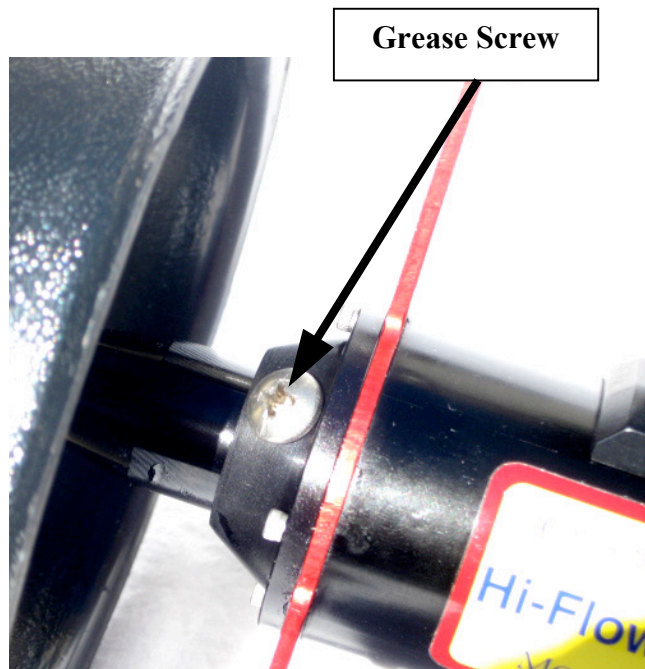

Figure 1 - Remove Grease Screw
1. Remove the grease screw as shown in figure 1.